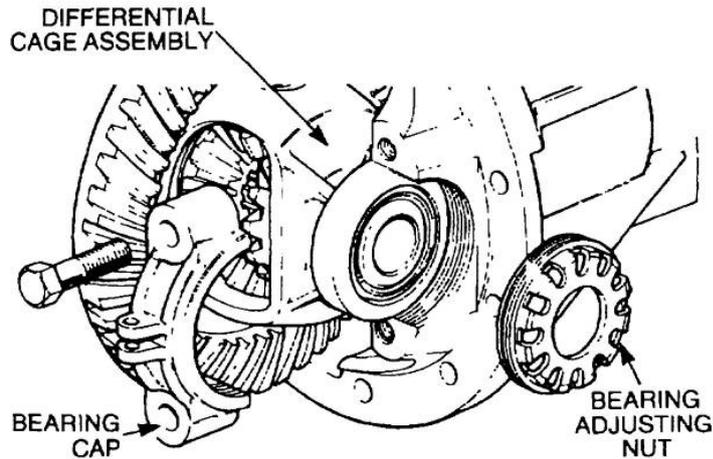

Figure 255 Installation of the Differential Cage
- g. Insert the differential cage assembly in the carrier and install the bearing caps and retaining bolts (Figure 255). Do not tighten the bolts at this stage.